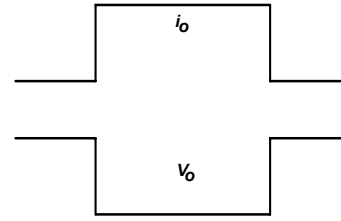

FIGURE 18. DESIRED LOAD TRANSIENT RESPONSE WAVEFORMS
Assuming the compensator design is correct, Figure 18 shows the expected load transient response waveforms if  $C_n$  is correctly selected. When the load current  $I_{core}$  has a square change, the output voltage  $V_{core}$  also has a square response.
Figure 18 shows the desired load transient response waveforms. Figure 24 shows the equivalent circuit of a voltage regulator (VR) with the droop function. A VR is equivalent to a voltage source ( $= V_{ID}$ ) and output impedance  $Z_{out}(s)$ . If  $Z_{out}(s)$  is equal to the load line slope LL, i.e. constant output impedance, in the entire frequency range,  $V_o$  will have square response when  $I_o$  has a square change.